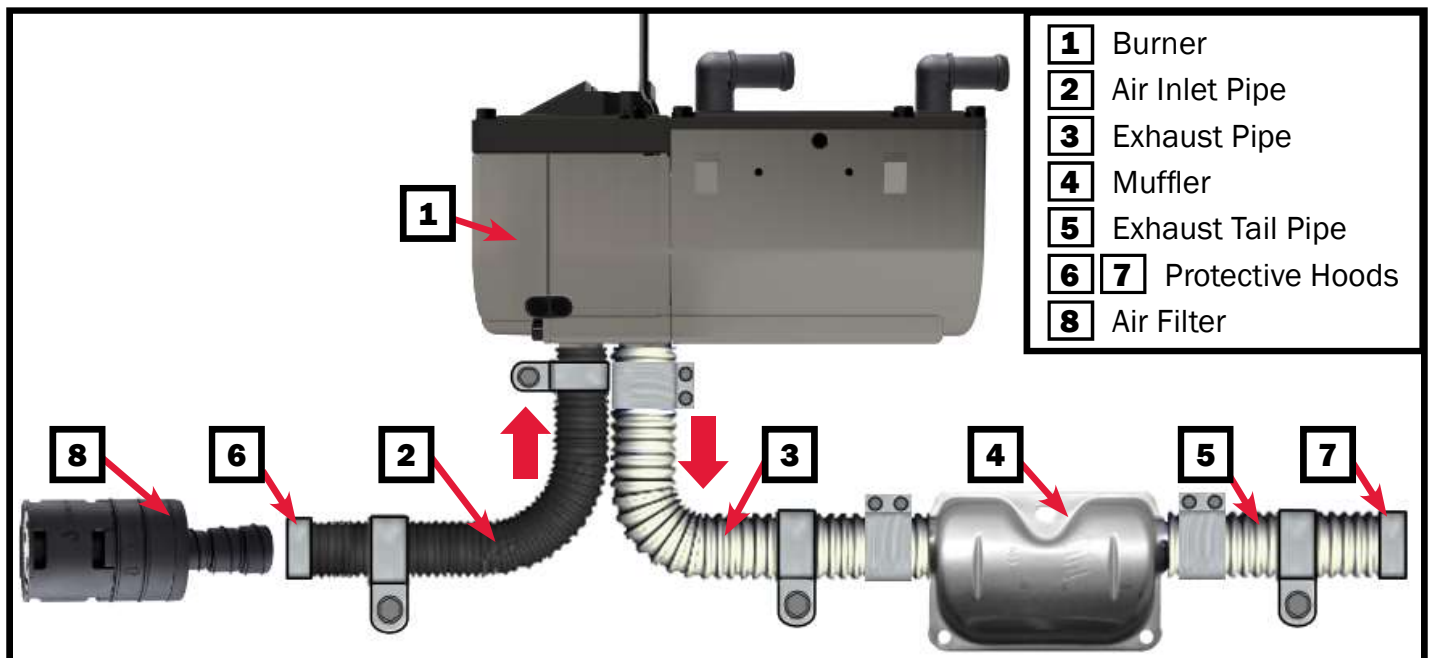

Figure 24
- Installation of air intake and exhaust system is shown in Figure 24.